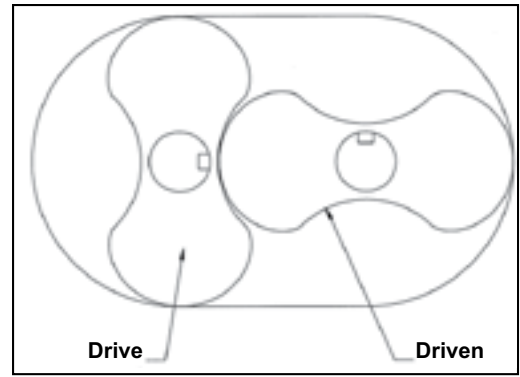

Figure 8.
3. Place free end plate on suitable blocking with rotor side up. Stand rotors (1) into each bore with gear end shafts up and keyways facing in the direction shown in Figure 8.
4. Install the gear end plate (4) over the rotor shafts and coming to rest on top of the rotor lobes, being careful not to damage the seals. Recheck the location of the oil sight glass in relation to the drive rotor before proceeding with the assembly.
5. 90/91 series only: Inspect lapped surface of seal mating ring to be sure it is perfectly clean. Use a soft tissue and cleaning agent if necessary. Place a few drops of lubricating oil on its surface and lubricate the O-ring. Install on rotor shaft with lapped surface down. Slot must line up with pin (300) in rotor shaft. Gently press with fingers to insure compression is taking place and mating ring is not hung up for any reason. Top of mating ring should sit flush with rotor shoulder when fully seated.